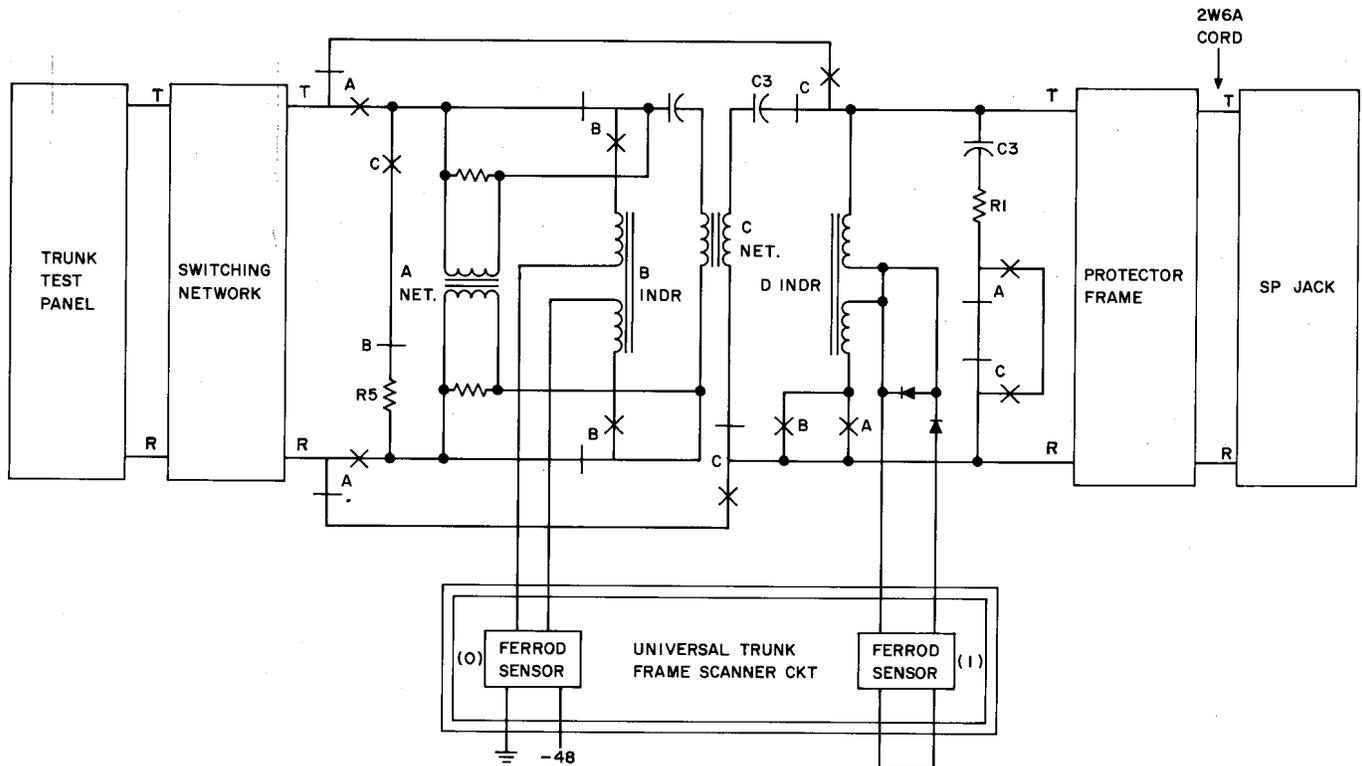

Fig. 1—Outgoing Trunk Circuit (SD-2H103)
3.05 Use the following procedure to make the outgoing trunk circuit traffic busy and to connect it to the TTP (Fig. 1).